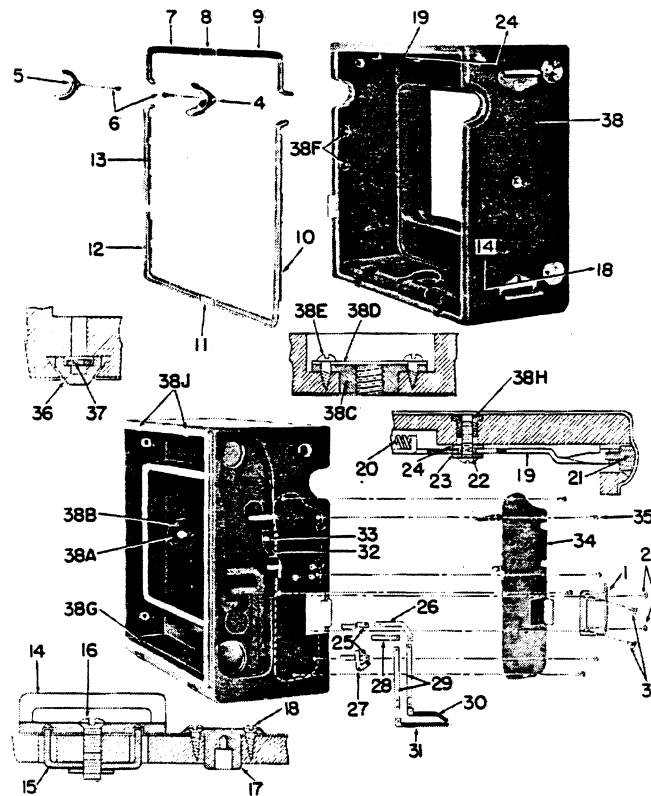
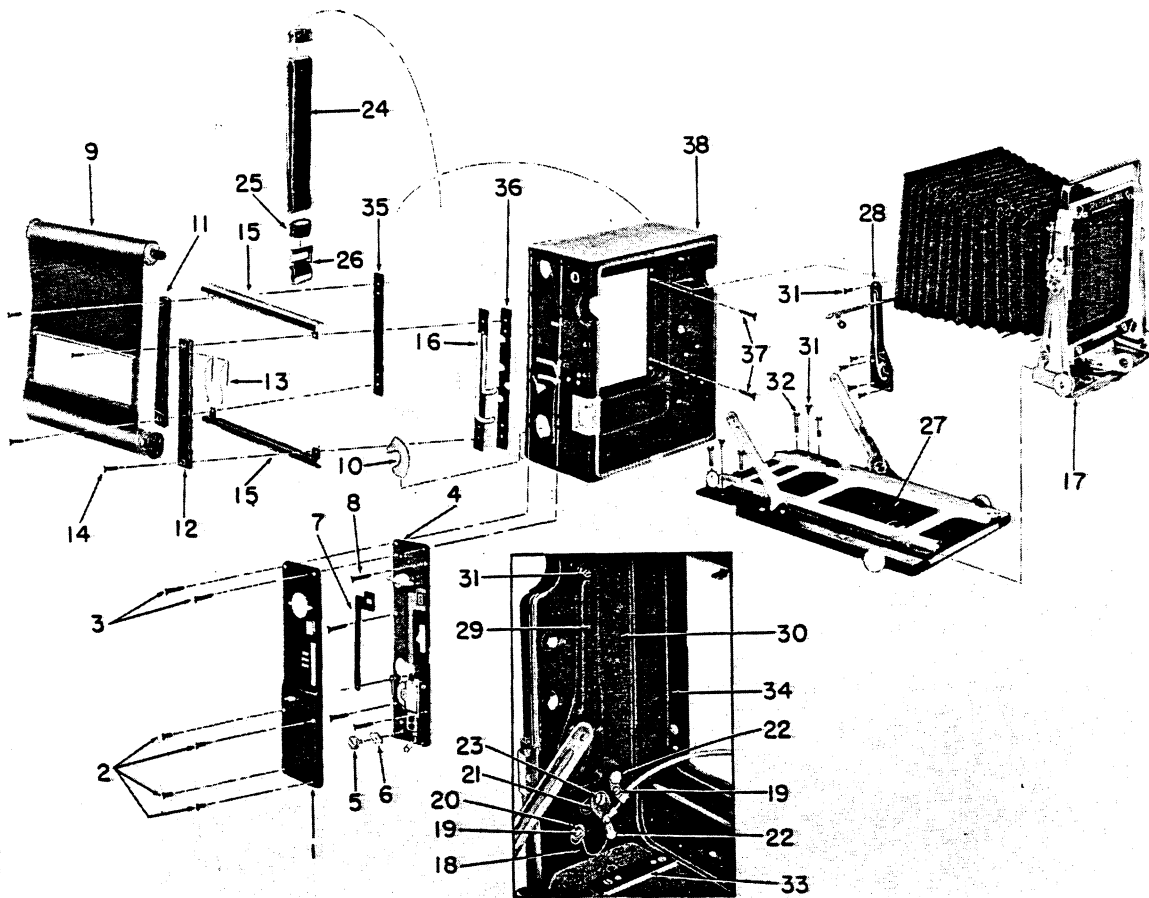

Figure 12. Case
Figure 2. Basic Camera
a. Place the bed in position in the camera case and reassemble four yoke guide case screws (32, figure 2) that are screwed into the machine nut (37, figure 12) located in the foot (36). Assemble two wood screws (31, figure 2).
1. Remove the release slide plate (1, figure 12).
2. Remove the right focusing knob escutcheon (5) that is held by escutcheon pin (6). Pry up the right moulding (13) and the right edge of the lower right moulding (12).
6. Remove six wood screws (35, figure 12) that secure the body release plate assembly (34), and remove the plate assembly.
1. Before replacing the body release plate assembly (34, figure 12) the mounting holes that are used to mount the rangefinder base and housing should be covered with transparent tape to prevent the tapped holes from becoming plugged with adhesive.
2. Position the body release plate assembly (34) and assemble six wood screws (35).
4. Using the edge of a knife, work adhesive into the slots at the front edge of the case, and replace the right moulding (13) and the lower right moulding (12). Replace the focusing knob escutcheon (5) that is secured with the escutcheon pin (6).
6. Replace the special block screw (23, figure 2).
2. To remove the bottom tripod socket it is first necessary to remove the bed assembly (27, figure 2) as described in paragraph VI.B. Remove three round head wood screws (38E, figure 12) and remove the cover plate (38D) and tripod socket (38C).